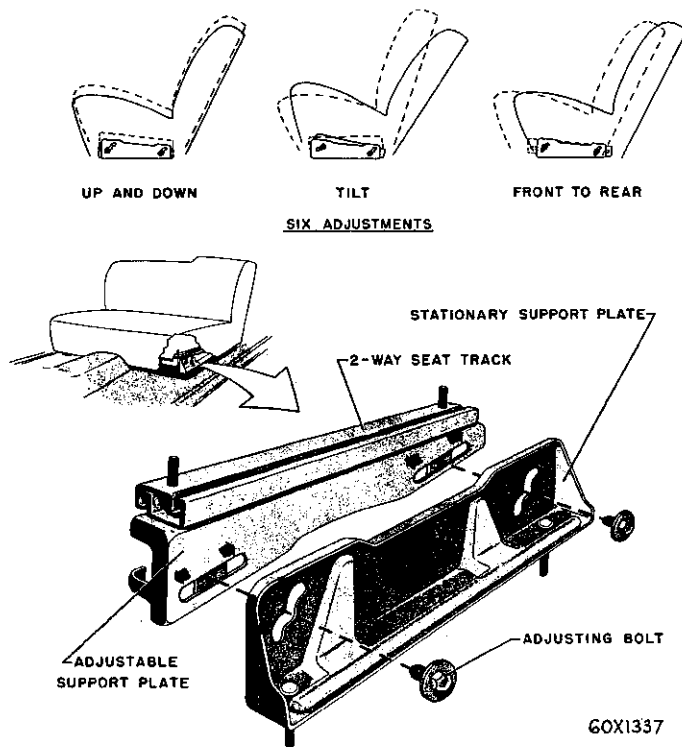

Fig. 44—Six Way Slotted Seat Track Assembly
48. CUSTOM POSITIONED SIX-WAY MANUAL FRONT SEAT ADJUSTMENT (Fig. 44)